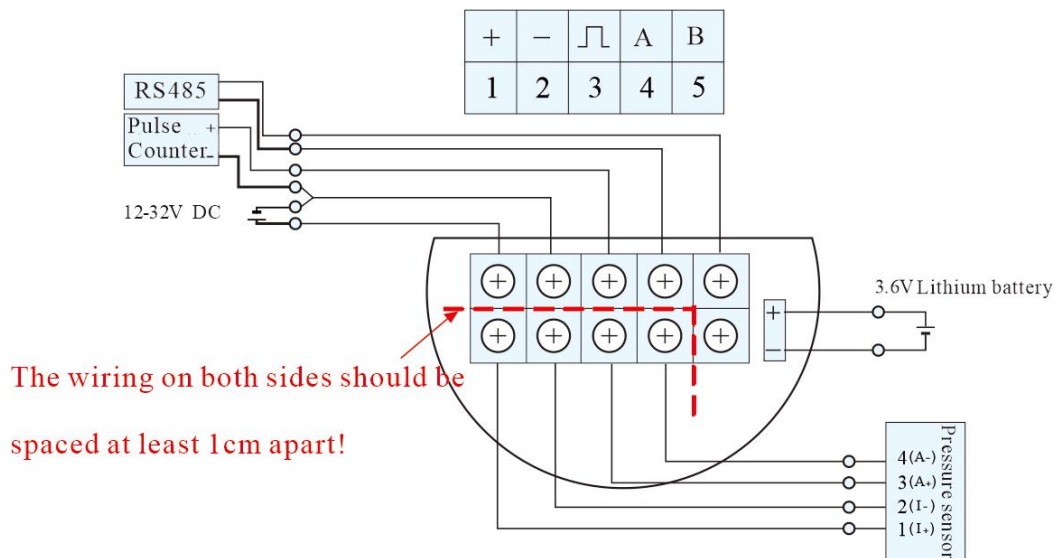

Fig. 21
7. Dual power supply+485 communication+pressure sensor+pulse output (Fig. 21).